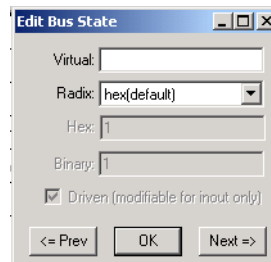

Figure 8-6. WaveFormer Lite's Edit Bus State
1. **Double-click a segment to open the Edit Bus State dialog, or click a segment in the signal.** Then click the HEX state button on the button bar. This selects the button and opens the Edit Bus State dialog box, as shown in Figure 8-6